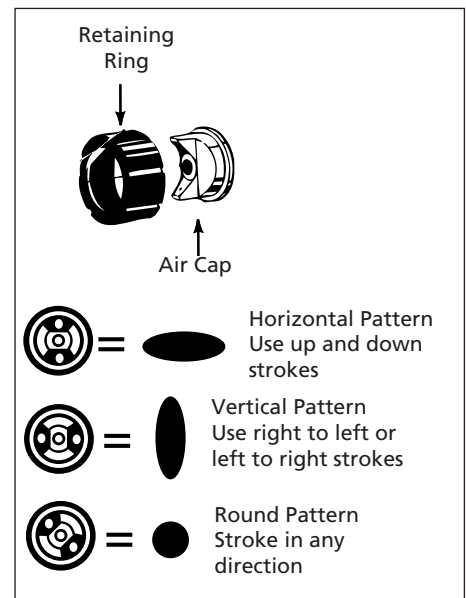

Figure 8 - Adjusting spray pattern
- To adjust spray pattern, loosen retaining ring and turn air cap to desired pattern position (See Figure 8).